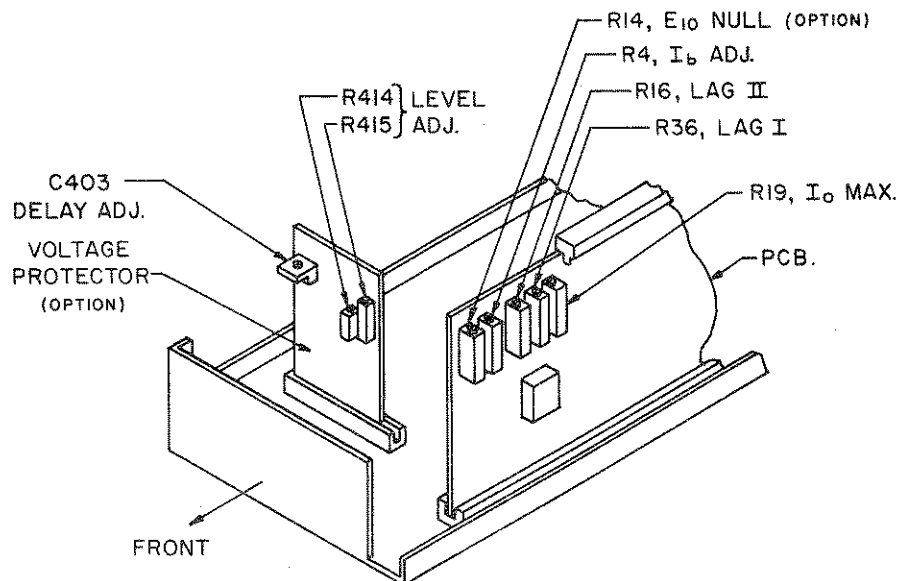

FIG. 2-1 LOCATION OF INTERNAL ADJUSTMENTS (NOT APPLICABLE TO "--HS" MODELS)
- c) INTERNAL ADJUSTMENTS AND CALIBRATIONS: Refer to FIG. 2-1 and TABLE 2-1.
- d) (Models suffixed "-VP" only) Check the "crowbar" action of the overvoltage protector by first adjusting the VOLTAGE CONTROL to about one quarter of the rated output voltage. Locate the "Vlimit" adjustments (R414,415, refer to FIG. 2-1) and turn the "Coarse" adjustment (R415) slowly counter clockwise until the output voltage goes suddenly to zero as observed on the panel meter. Turn AC POWER SWITCH "off". Turn the coarse "Vlimit" control (R415) fully clockwise again.